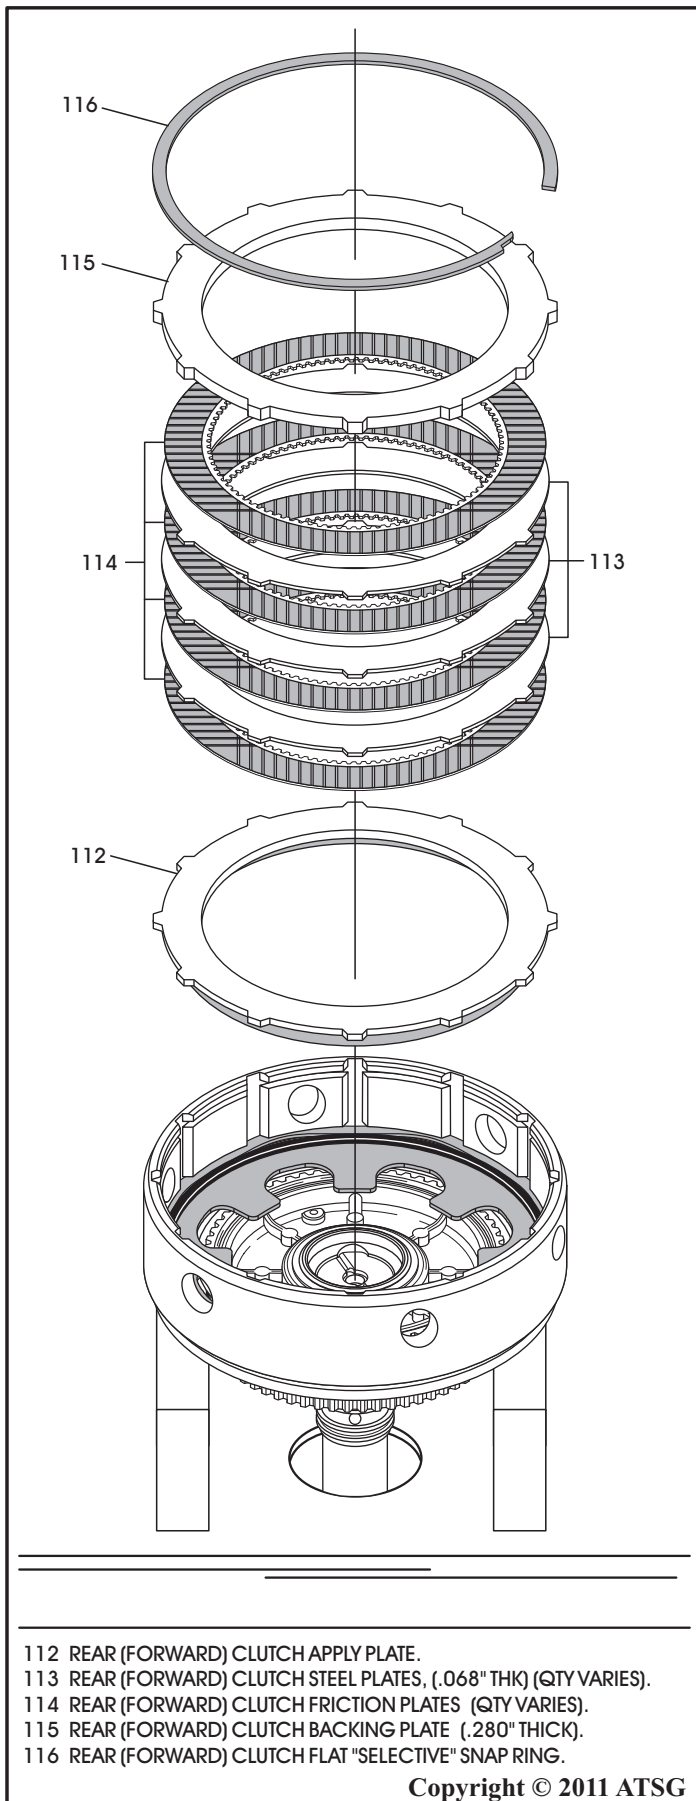

Figure 127
12. Install the forward clutch apply plate with flat side facing up, as shown in Figure 127.
13. Install the forward clutch pack beginning with a friction plate and alternating with a steel plate until you have installed 4 frictions and 3 steel plate, as shown in Figure 127.
14. Install forward clutch backing plate, as shown in Figure 127.
15. Install forward clutch selective flat snap ring, as shown in Figure 127.